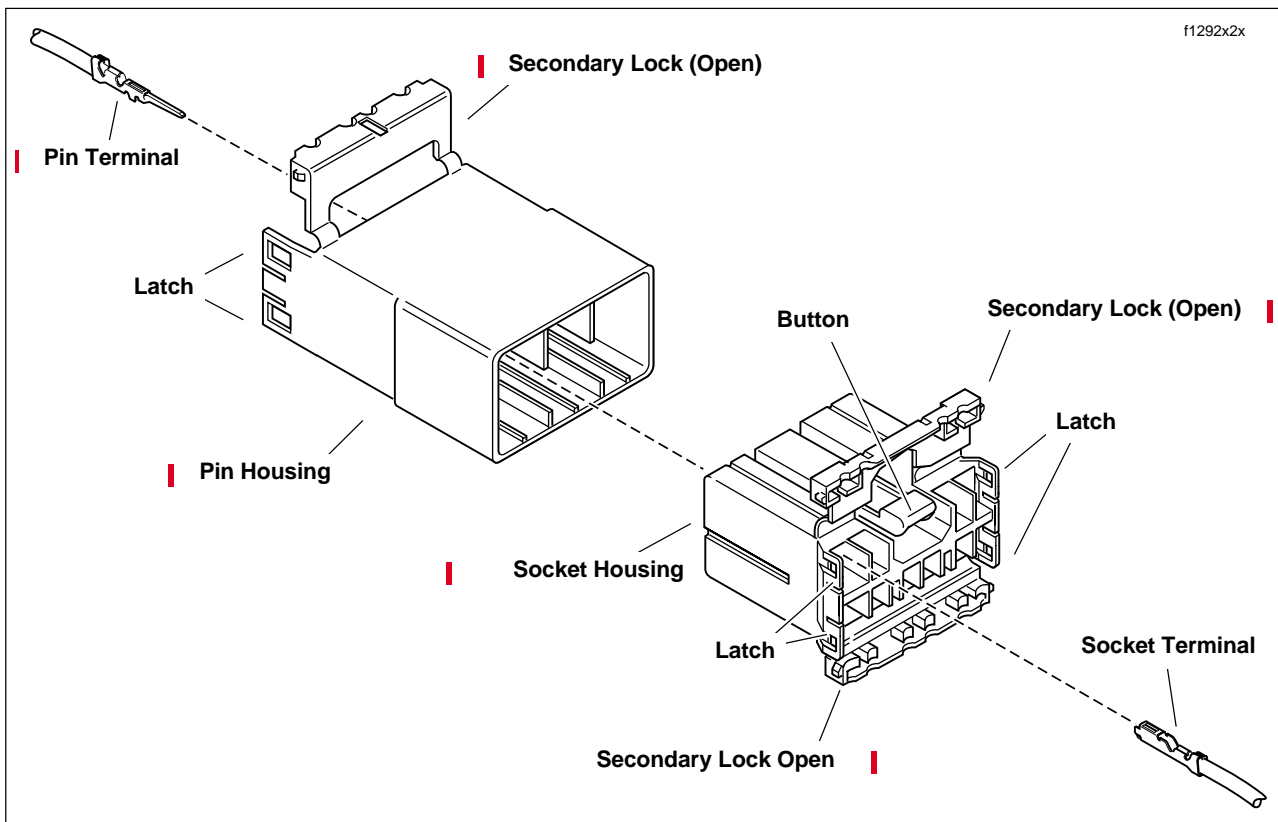

Figure B-4. Amp Multilock Connector (Exploded View)
2. See Figure B-4. Depress the button on the socket terminal side of the connector (plug) and pull apart the pin and socket halves.